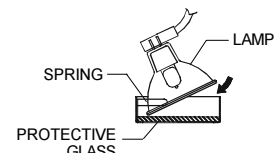

FIG.3
- Turn the lamp under spring (if applicable). (Fig.3,4,5)